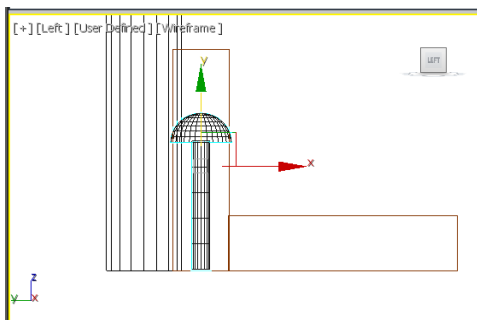

Figure 2-78 Alignment of *cap* and *body*
11. Next, align *cap* and *body* of the rivet in the Left viewport using the **Select and Move** tool, as shown in Figure 2-78.